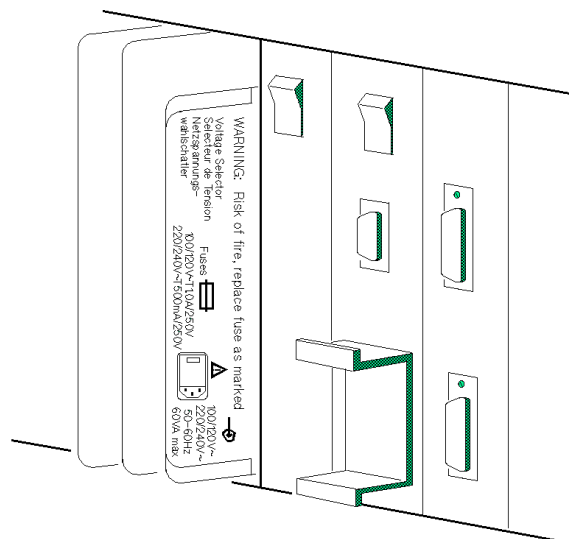

Figure 2-1 System Voltage and Fuse Values on the Rear Panel
3. Close the rear panel and check that the correct voltage setting is shown (see Figure 2-1).